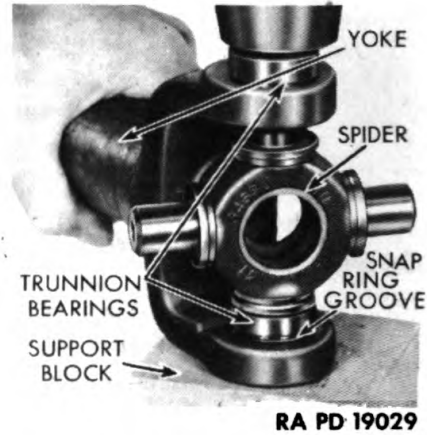

Figure 101 — Installing Trunnion Bearing
(1) **ASSEMBLE SPIDER AND ROUND TRUNNION BEARINGS IN SHAFT.** Install dust shields on spider. Place one round trunnion bearing in place in yoke bore, but only drive in flush with inner face of yoke. Insert spider, and place opposite bearing in bore. Support yoke on wood block, and drive bearings into bores far enough to permit installing retaining snap rings (fig. 101). Support spider on vise jaws, and tap yoke to drive snap rings against inner faces of yokes. Test for freedom of operation.